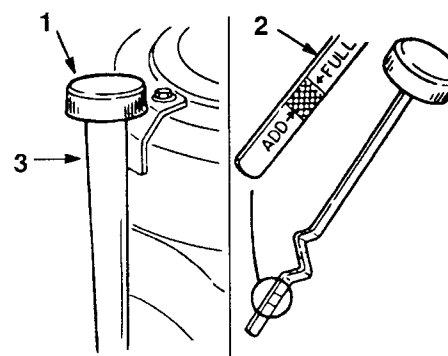

Figure 30
3. Clean around the oil dipstick (Fig. 30) so dirt cannot fall into the filler hole and damage the engine.
4. Unscrew the oil dipstick and wipe the metal end clean (Fig. 30).
5. Screw the oil dipstick fully onto the filler tube (Fig. 30). Unscrew the dipstick again and look at the metal end. If oil level is low, slowly pour only enough oil into the filler tube to raise the level to the "FULL" mark.
6. Slowly pour approximately 80% of the specified amount of oil into the filler tube (Fig. 30). Now check the oil level; refer to Checking Oil Level, page 30, steps 4–5.